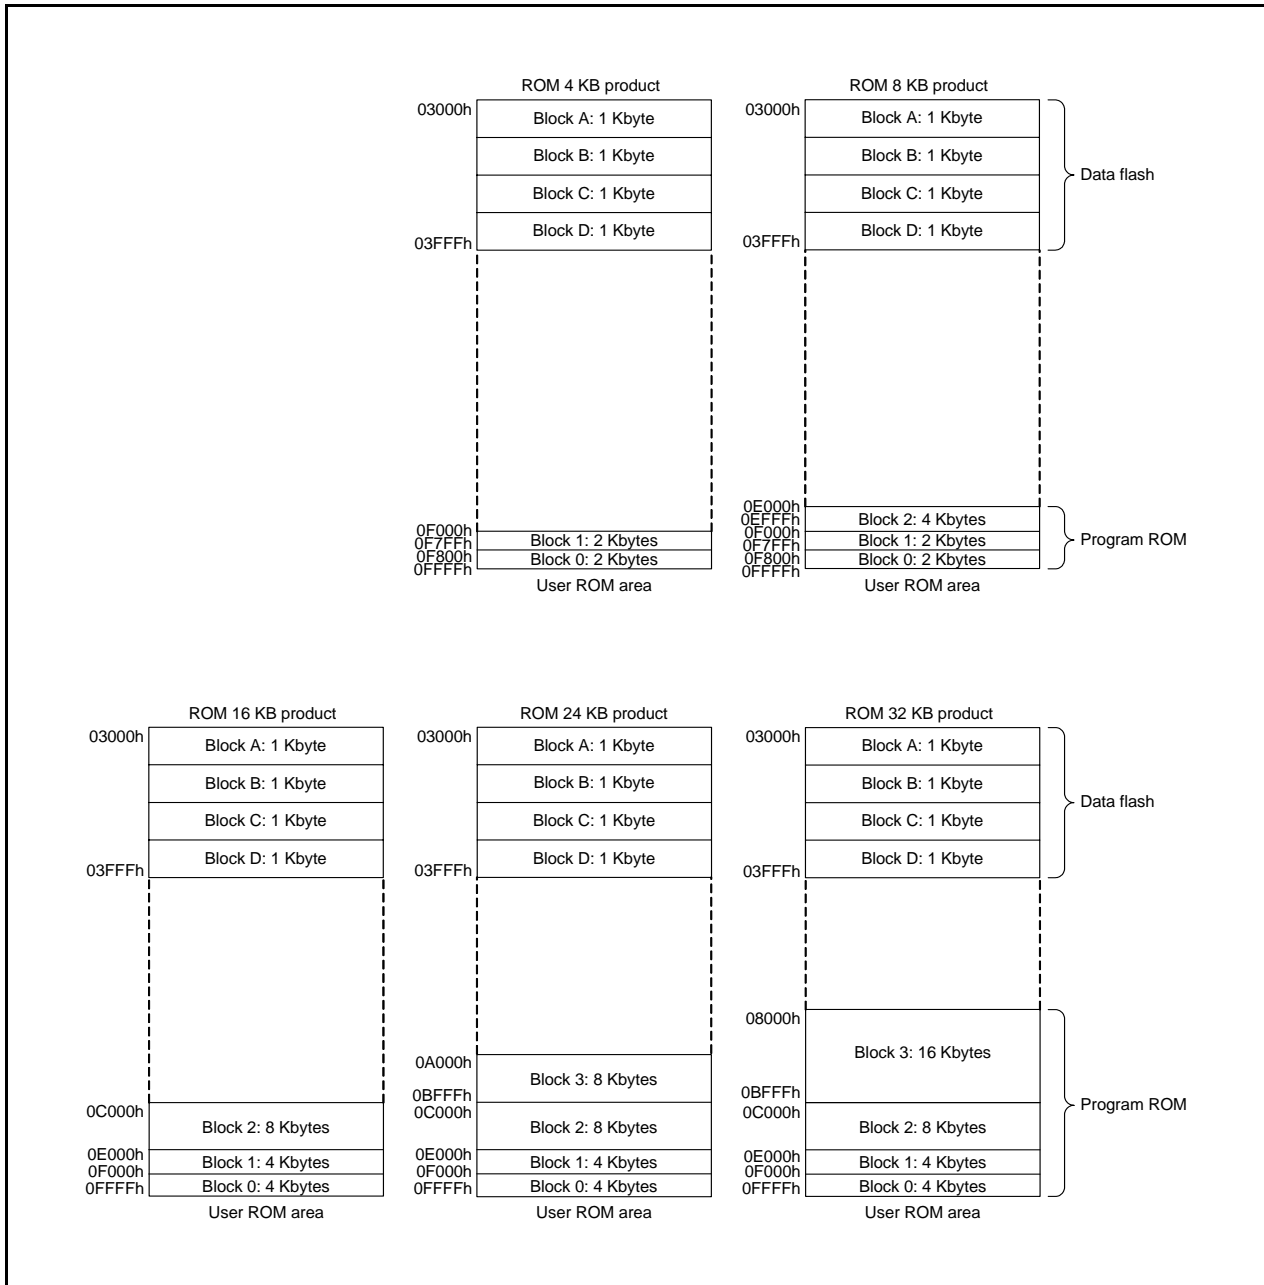

Figure 31.1 R8C/33M Group Flash Memory Block Diagram
- The number of blocks and block division vary with the MCU. Refer to **Figure 31.1 R8C/33M Group Flash Memory Block Diagram** for details.
Figure 31.1 show the R8C/33M Group Flash Memory Block Diagrams.